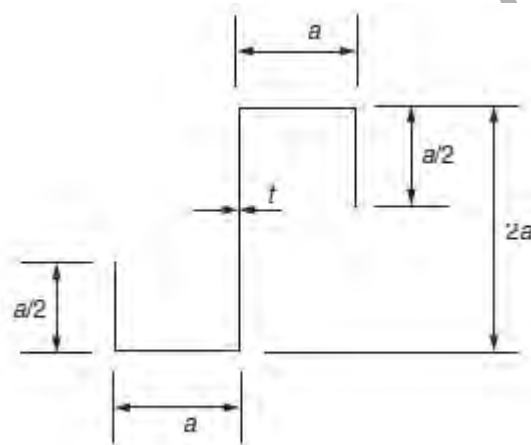

Figure 1:
1. A thin-walled cantilever beam of length L has the cross-section shown in Figure 1 and carries a load P positioned as shown at its free end. Determine the torsion bending constant for the beam section and derive an expression for the angle of twist θ_T at the free end of the beam. Calculate the value of this angle for $P=100$ N, $a=30$ mm, $L=1000$ mm, $t=2.0$ mm, $E=70\,000$ N/mm² and $G=25\,000$ N/mm².